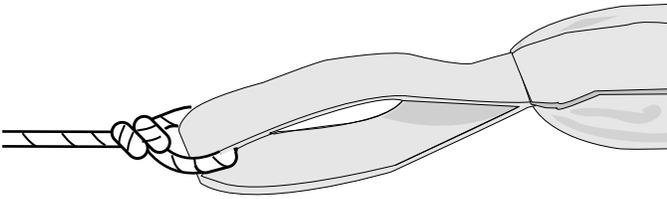

Figure 3
4.2 Attach a pull line to the pulling loop at the end of the grip (Figure 3).